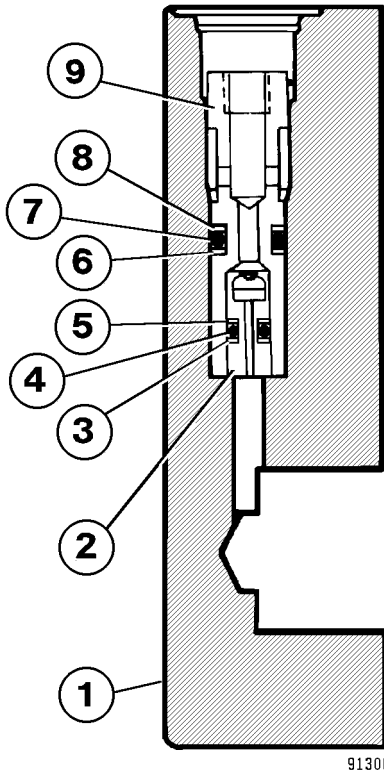

FIGURE 8-6. RESTRICTOR POPPET REMOVAL
NOTE: If removal of the restrictor poppet in cover (2) is required, refer to Step 4 and Figure 8-6.
4. Remove sleeve (9, Figure 8-6), backup ring (8), O-ring (7), backup ring (6). Remove backup ring (5), O-ring (4), backup ring (3) and restrictor poppet (2).
2. If restrictor poppet (2, Figure 8-6) was removed, reassemble in the order shown.